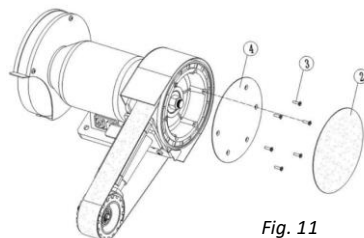

Fig. 11
1. Install the sanding disc (#4) and tighten the screws (#3) (Fig. 11).
2. Paste the sanding paper (#2) to the disc evenly and smoothly (Fig. 11).